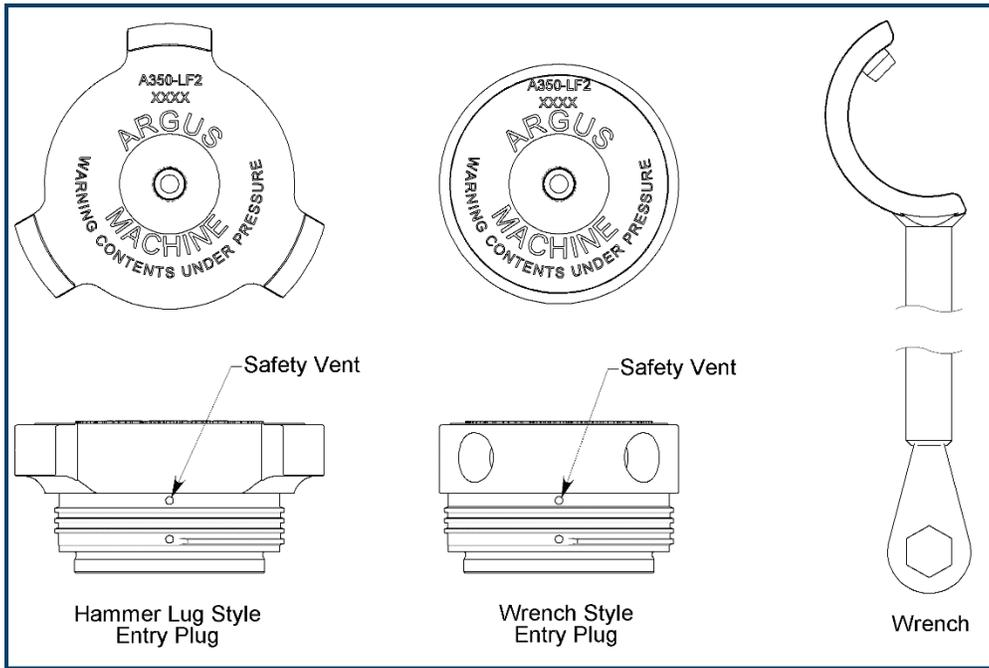

Figure 3: Argus Entry Plug Style
In the following section on Pig Valve operation (refer to Figure 3 – 5), it is assumed that the orientation of the Pig Valve is such that the rotating stem/gear operator is facing the field technician and the flow is “left to right” for pig sending and receiving.
4. Slowly loosen entry plug (refer to Figure 3 to determine style of entry plug) by rotating counterclockwise using a “non-spark mallet”, “wrench” or “impact davit”. Observe the safety vent area (covered by the weather seal) at the top of the threads on entry plug (see Figure 2). If there is any media flowing from this area when the entry plug is being loosened, immediately re-tighten entry plug. Repeat steps 3 and 4. If unable to bleed all pressure from body cavity refer to the “Troubleshooting” section in this manual.
4. Slowly loosen the entry plug (refer to Figure 3 to determine style of the entry plug) by rotating counterclockwise using a "non-spark mallet", "wrench" or "impact davit". Observe the safety vent area (covered by the weather seal) at the top of the threads on the entry plug (see Figure 2). If there is any media flowing from this area when the entry plug is being loosened, immediately re-tighten the entry plug. Repeat steps 3 and 4. If unable to bleed all pressure from body cavity refer to the "Troubleshooting" section in this manual.
3. Slowly loosen the entry plug (refer to Figure 3 to determine style of entry plug) by rotating counterclockwise using the supplied entry plug wrench. Observe the safety vent area (covered by the weather seal) at the top of the threads on entry plug (see Figure 2). If there is any media flowing from this area when the entry plug is being loosened, immediately re-tighten entry plug. Slowly open vent/drain valve to vent pressure and draining fluid from the Pig Valve main body cavity. If unable to vent all pressure from the body cavity refer to the “Troubleshooting” section in this manual.